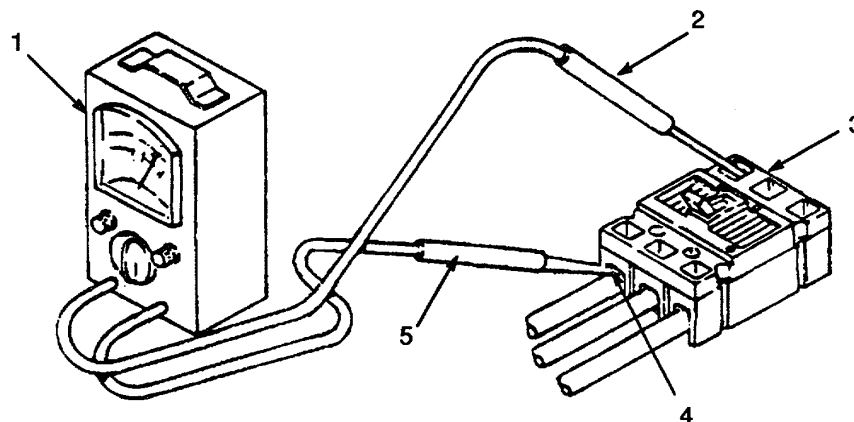

Figure 4-7. Circuit Breaker Test.
- Place circuit breaker to dosed (ON) position.
- Preset multimeter (1, Figure 4-7) for continuity testing and touch one probe (2) to input terminal (3) of circuit breaker and touch remaining probe (5) to associated output terminal (4). Continuity must be present.